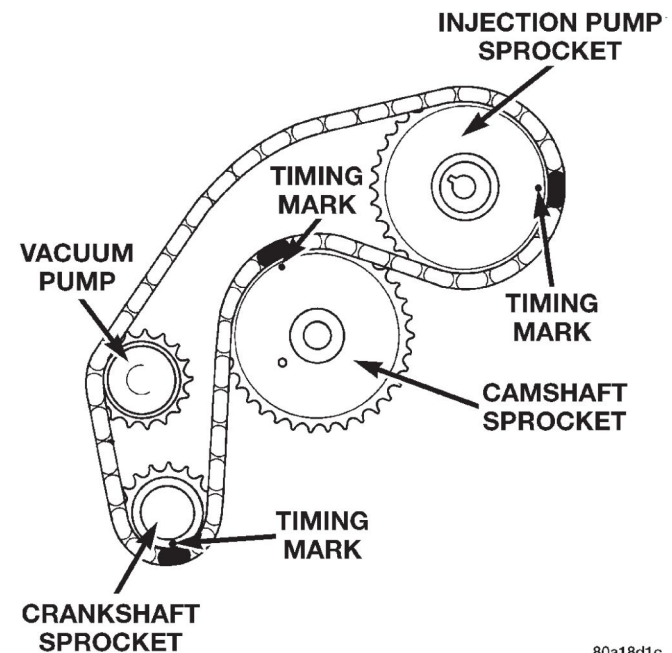

Fig. 42 Timing Marks
- (10) Rotate crankshaft to align timing marks on injection pump sprocket, camshaft sprocket, and crankshaft sprocket with three dark plated links on timing chain (Fig. 42).